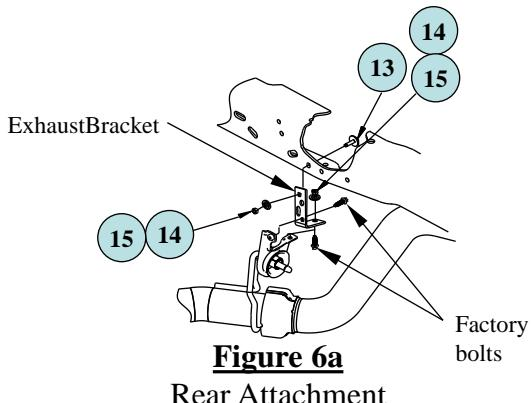

Figure 6a
20. If there is less than $\frac{1}{2}$ " clearance between the exhaust pipe and the cross members, the exhaust bracket supplied with the 4449 mounting kit must be used (See figure 6a and 6b). For the rear attachment (Figure 6a), fasten the supplied bracket extension to the factory bracket with the factory M8 bolts, then fasten the extension to the frame with the supplied hardware. Reattach the exhaust bracket forward of the axle to the frame cross member with 3/8" spacers sandwiched between the bracket and cross member.